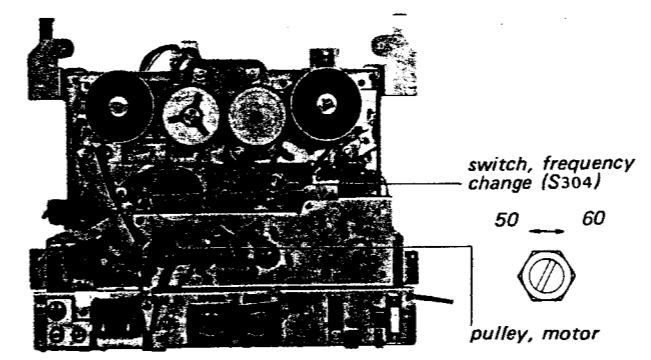

Fig. 10-1 Parts location
- FIRST:** Using a screw-driver, turn the line frequency switch (S304) to the correct position for the power to be used (50 or 60 Hz). See Fig. 10-1.